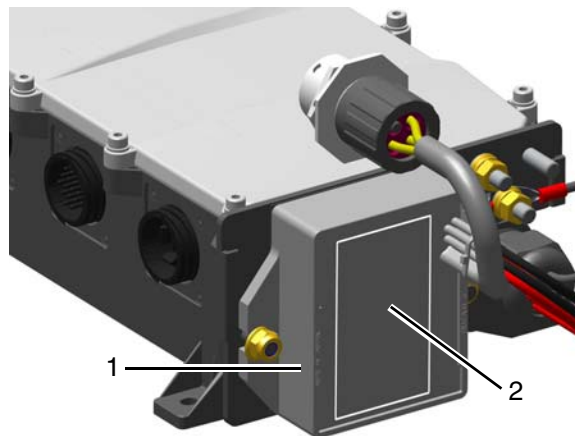

Fig. 2
See Fig. 2.
The regulator temperature measurement area is shown in Fig. 2 (pos. 2).